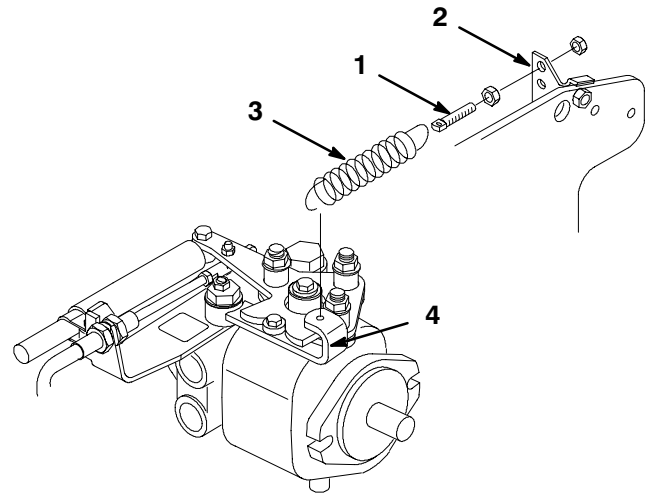

Figure 7
19. Hook spring onto neutral arm and adjusting pin (Fig. 7).
20. Secure adjusting pin to spring bracket with jam nut (Fig. 7).